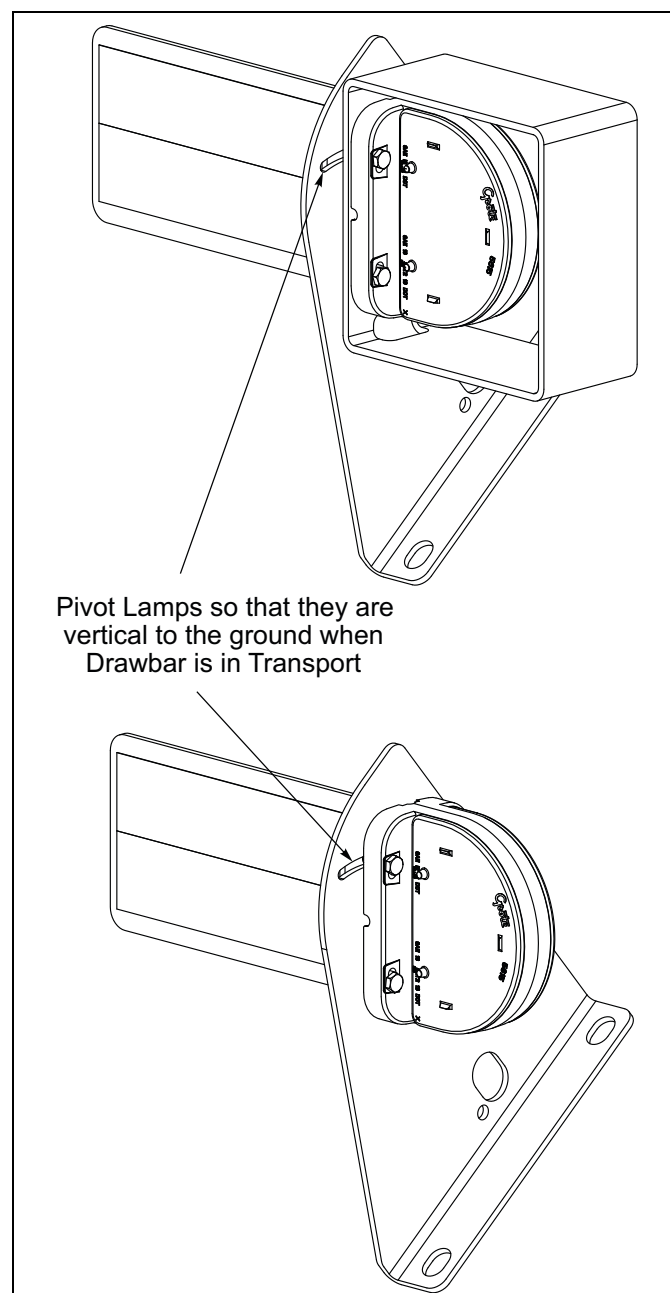

Figure 2-11: LED Lamp Adjustment
9. Adjust the LED lamp angles so LED's are vertical with the drawbar height adjusted to the transport height. Adjustment is provided to compensate for high drawbar heights if used as a companion tool or lower heights if towed directly behind a tractor. See Figure 2-11.